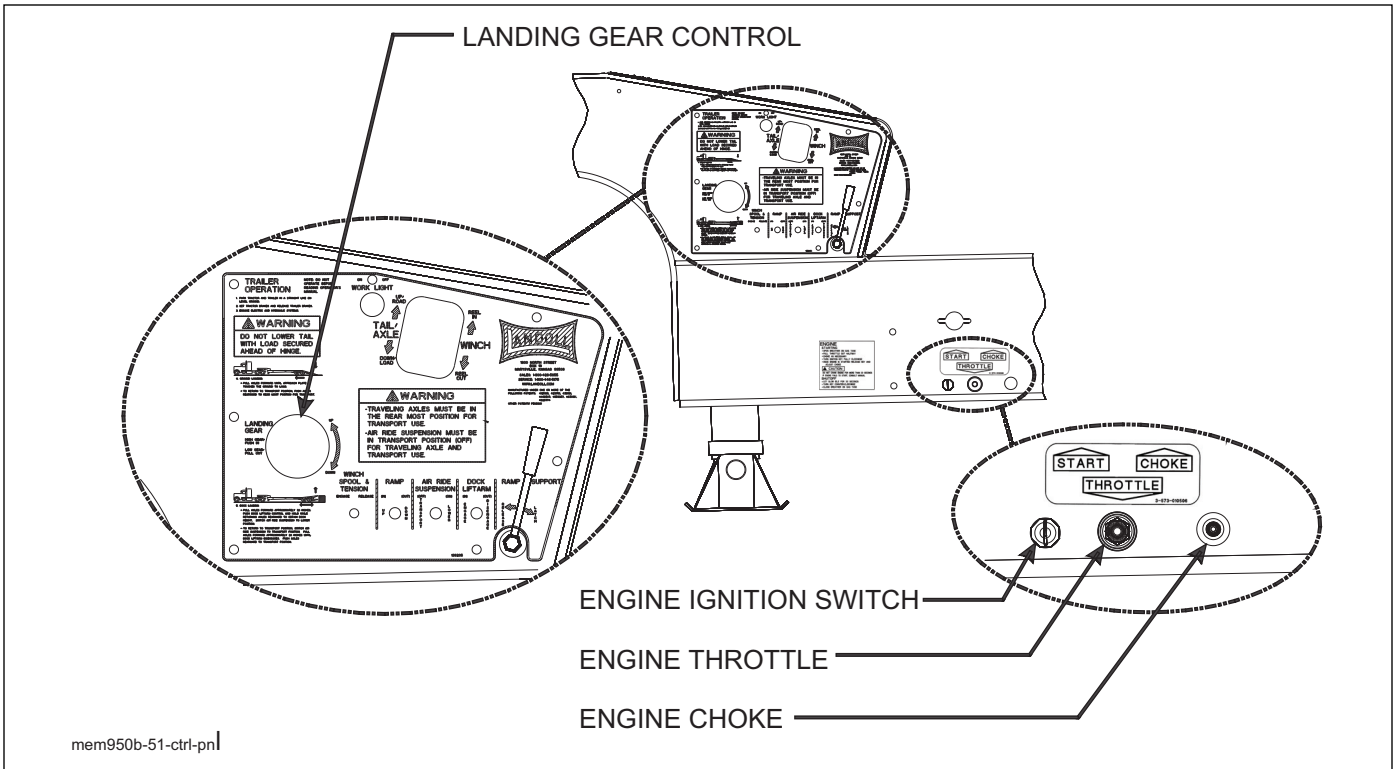

Figure 3-11: Hydraulic Engine Package Control Panel (Option)
2. The **ENGINE IGNITION SWITCH** is located below the hydraulic controls, and behind them on the driver's side of the semitrailer. Use the key to start and stop the Hydraulic Power Supply Engine (**See Figure 3-11.**) This switch has three positions:
- The **HYDRAULIC POWER SUPPLY ENGINE CHOKE** is located to the right of the Engine Ignition Switch on the driver's side of the semitrailer (See **Figure 3-11.**) The purpose of the Choke is to aid the starting procedure.
- The **HYDRAULIC POWER SUPPLY ENGINE THROTTLE** is located to the side of the choke on the driver's side of the semitrailer. The Engine Throttle controls the speed at which the engine operates (See **Figure 3-11.**) It is a variable position control: